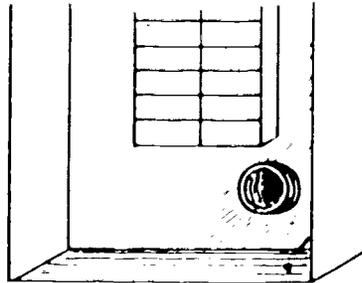

FIGURE 2.
- G. Place nipple through meter base knockout and secure loosely with one screw (Figure 2)